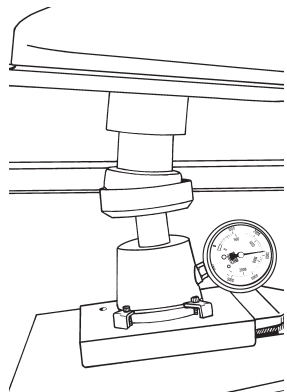

FIGURE 5
- As the kingpin is lowered into the cup on top of the piston, the tow vehicle will begin to move under the weight exerted by the kingpin (See Figure 5).
- Because the kingpin is off-center when you start, you will have to adjust the saddle backward as you lower the kingpin into the piston cup, as shown in Figure 5. As the kingpin lowers, the scale will rotate to the horizontal position. Continue to lower the kingpin into the cup on the top of the piston until the full load of the trailer is on the scale. See what the weight reading is on the gauge. Because of the suspension of the tow vehicle, the fifth-wheel hitch is a moving surface. This means that the weight that is shown on the gauge is an approximate weight, not an exact weight, which you would get if the gauge was mounted to a non-moving surface. It will still give you a fairly accurate hitch weight so you will know when you are getting close to the maximum hitch weight (See Figure 7 on the following page).